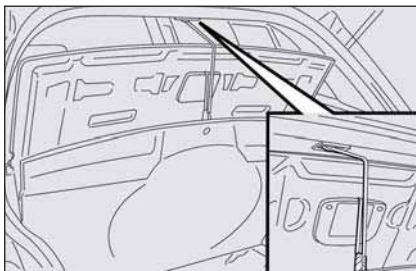

fig. 3
- Make the wire secured under the loading surface (where provided), pass through the proper slot secured to the boot shelf mat and fasten both to the hook on the upper roof, as shown in **fig. 3**;